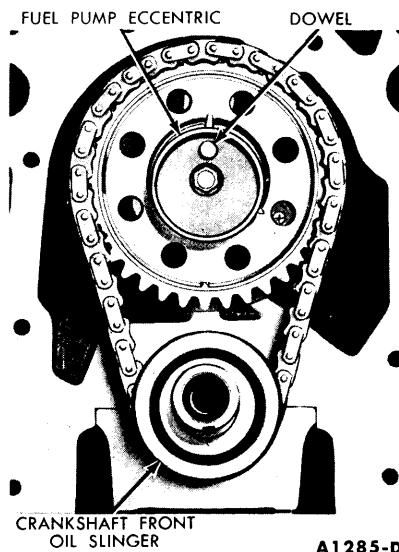

FIG. 33—Fuel Pump Eccentric and Front Oil Slinger Installed
2. Install the fuel pump eccentric and the camshaft sprocket cap screw (Fig. 33). Torque the sprocket cap screw to specifications. Install the crankshaft front oil slinger.
4. Install the fuel pump eccentric and the camshaft sprocket cap screw (Fig. 33). Torque the sprocket cap screw to specifications. Install the front oil slinger.